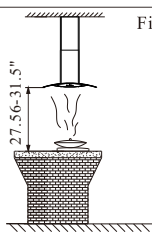

Fig.2
2. Install the range hood right above the cooking surface. The recommended distance between the cooking surface and the lower edge of the range hood is minimum 27.56" to maximum 31.5". (Fig.2)